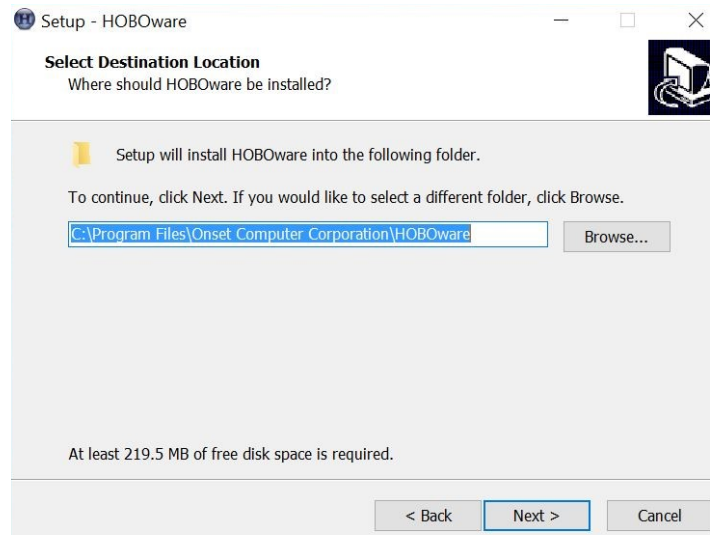

Figure 14. Select Destination Location
- The next window (Fig. 14) will ask you to select a location on your computer where the program will be installed. The default setting is to save to “Program Files”, and this is generally where all of your computer programs are located. Click NEXT.